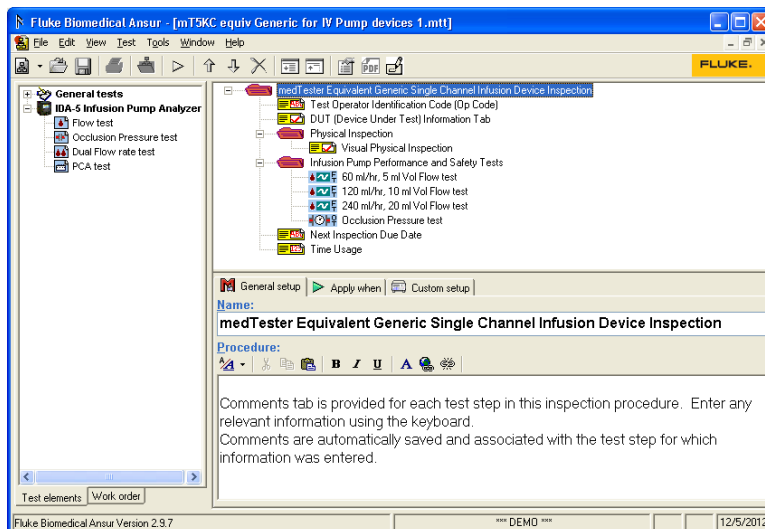

Figure 3-4. mT5KC Equivalent Generic Test Template
4. Click a file name and then click the **Open** button, or double-click the file name to open the selected template and show its contents as shown in Figure 3-4.